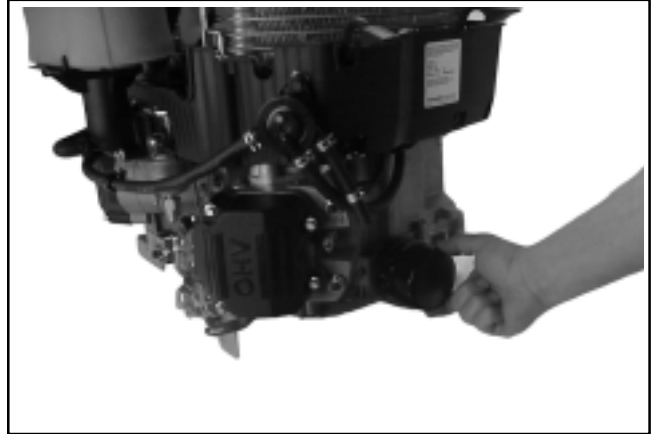

Figure 11-104. Installing Oil Filter.
3. Hand tighten the filter until the rubber gasket contacts the adapter, then tighten the filter an additional $2/3$ -1 turn. See Figure 11-104.